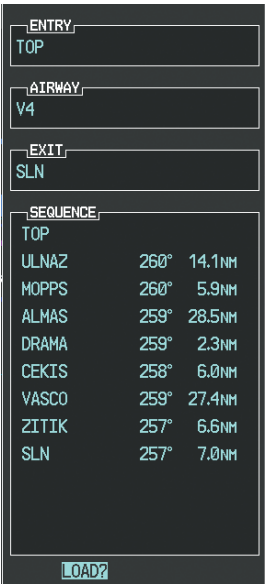

Figure 7-18 Ready to Load V4
j) Press the **ENT** Key. The selected airway and exit are displayed, and the prompt "LOAD?" highlighted as in Figure 7-18.